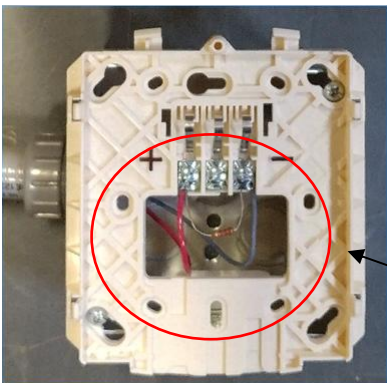

Figure 12.10
- 13 See **Figure 12.10**. Install end of line resistor, retained from Step 5, at last Signal Horn, between positive and negative terminals.